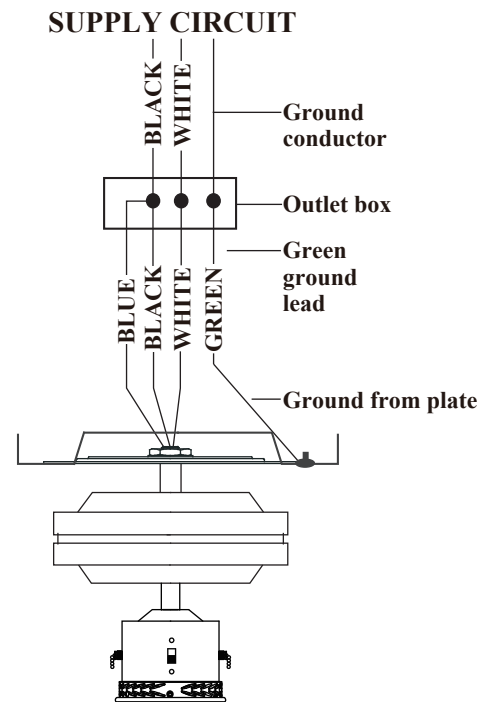

Fig. 5
1. Connect the ground conductor of the 120 V supply (this may be a bare wire or a wire with green-coloured insulation) to the green ground lead(s) of the fan (see Fig. 5).
2. Connect the fan motor white wire to the supply white (neutral) wire using a wire nut (see Fig. 5).
3. Connect the fan motor black wire to the supply black (hot) wire using a wire nut (see Fig. 5).
4. Connect the blue wire for the light kit to the black (hot) household supply wire using a wire nut (see Fig. 5).